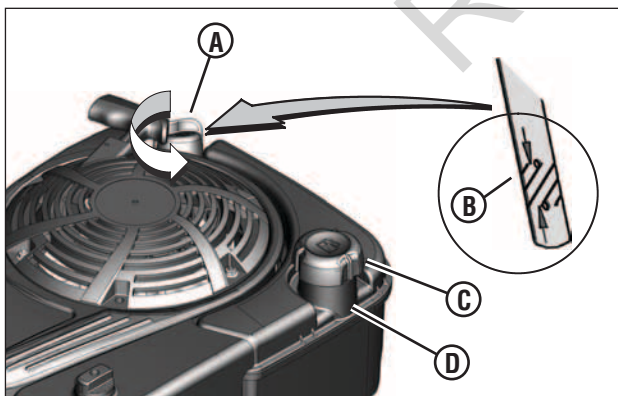

Figure 2: Oil and fuel fill
- Remove the dipstick (**A**, **Figure 2**) and wipe with a clean cloth.
- Remove the fuel fill cap (**C**, **Figure 2**).